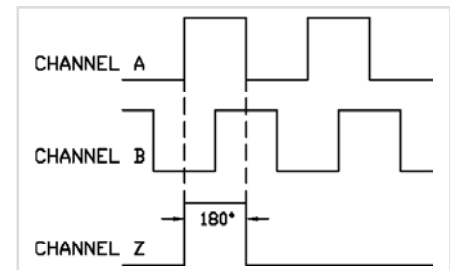

Figure 4. Quadrature encoder with an index channel.
- Quadrature with an index channel (Figure 4)
The index or “Z” channel of an encoder happens once per revolution of the encoder (see Figure 4). The index is also sometimes called a reference, marker, or homing pulse. One common function of the index is as a home position locator. Every time the index is triggered, the receiving device knows where the encoder is within its rotation. The index is normally 180° electrical and gated to either channel A or channel B. In addition to standard gating, Accu-Coder™ encoders have other gating options that a customer can order based on the customer’s special needs.